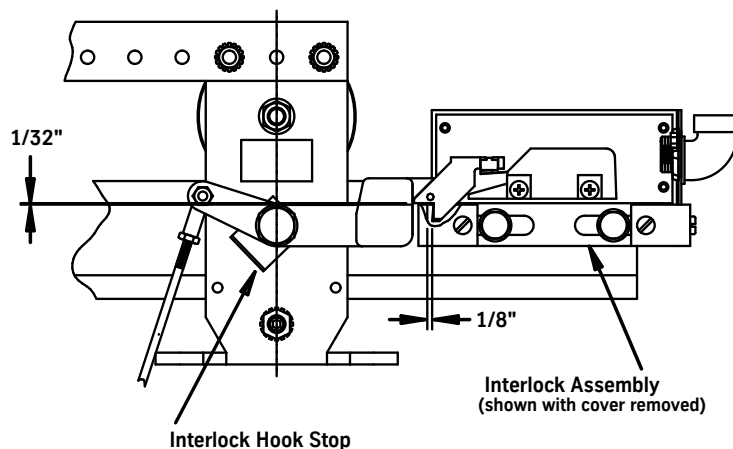

Figure 42 - Adjust the Interlock Box
4. Adjust the interlock box so there is an equal distance (about 1/8"), when the doors are closed, between the interlock hook and both sides of the locking tab on the box. See Figure 42.
4. Adjust the interlock box so that there is an equal distance (about 1/8") when the doors are closed between the interlock hook and both sides of the locking tab on the box. See Figure 42 on page 45.